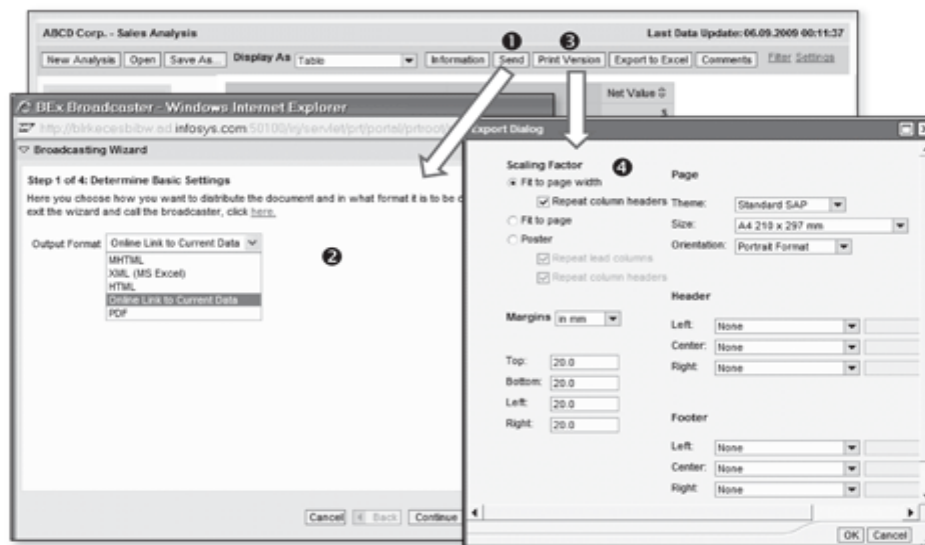

Figure 10.46 BEx Web Analyzer Function – Send and Print Version
- **Send:** If the person performing analysis wants to share the results with another person, he can use the Send button (❶ of Figure 10.46) to distribute this analysis. The Send function actually calls the BEx broadcaster wizard from BEx broadcaster, which allows you to create these distribution settings. The data from the current analysis can be distributed in different output formats, as shown in ❷ of Figure 10.46. Details about BEx broadcaster and information broadcasting are discussed in later sections of this chapter.
- **Print Version:** This function (❸ of Figure 10.46) allows you to prepare the analysis for printing. You can make print-specific settings, add headers/footers, and generate a PDF that can be printed (❹).